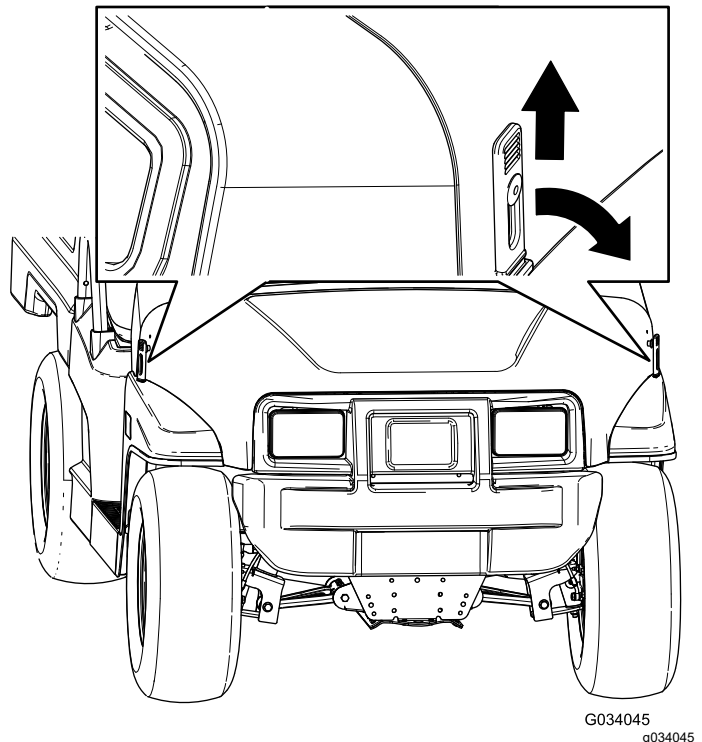

Figure 26
1. Lift up the handle of the rubber latches on each side of the hood (Figure 26).
2. Secure the hood by aligning the rubber latches onto the latch anchors on each side of the hood (Figure 26).